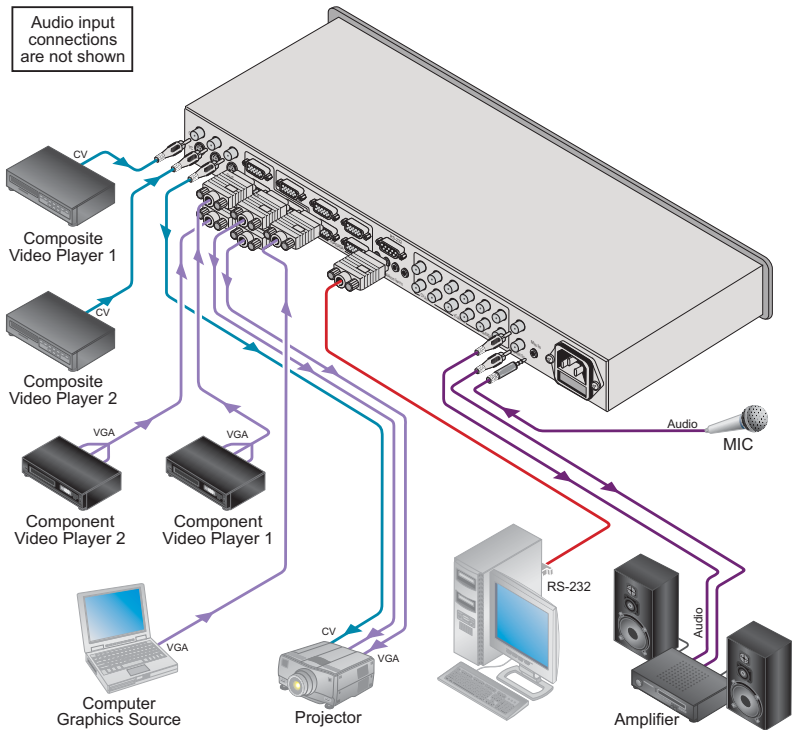

Figure 3: Connecting the VP-23C Presentation Switcher
In Figure 3, the audio input connections are not shown, except for the microphone. In this example, all the outputs are connected to the same projector. Use the projector controller to switch between the **VP-23C** video outputs or the projector inputs.
To connect the **VP-23C**, as illustrated in the example in Figure 3, do the following: You do not need to connect all the inputs.
3. Connect the appropriate unbalanced stereo audio sources (not shown in Figure 3).
7. Connect the power cord (not shown in Figure 3).